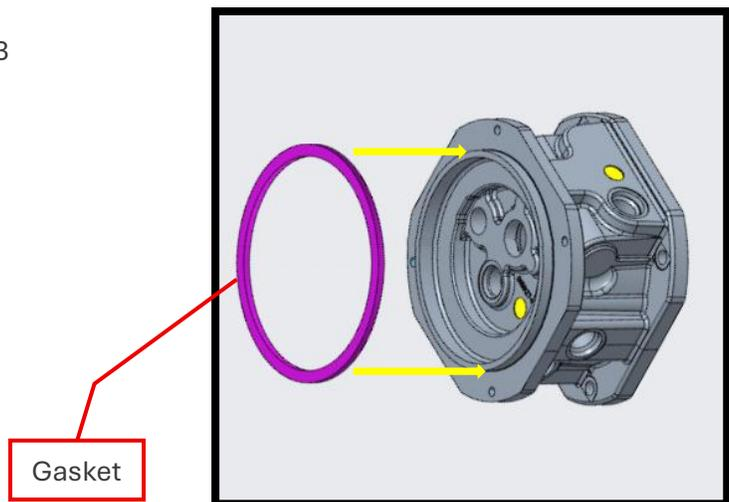

Figure 11: Install the gasket
4. Place the gasket on the end cover of the meter before installing the MC3 (refer to Figure 11).